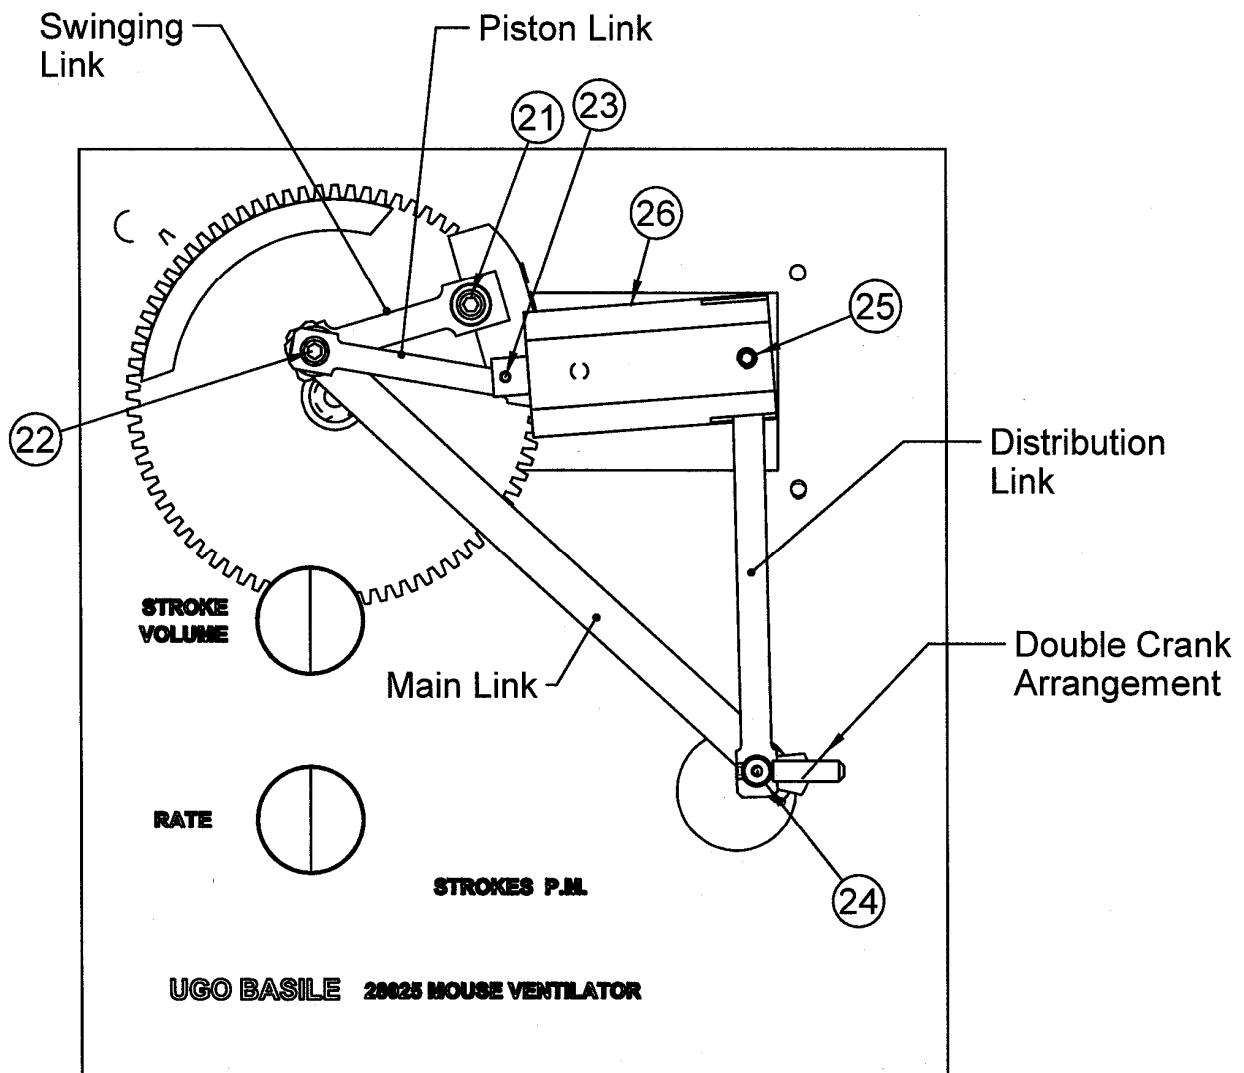

Figure 6 "Lubrication"
* See Figure 6 “Lubrication” for the “mechanically correct” names of the members of the kinematic linkage.
Every 200 hours of operation, lubricate the bearing of the swinging link (21), the triple joint (22), the piston gudgeon (23), the distribution link bearing (25), the double crank arrangement (24), see Figure 6 "Lubrication", by applying one drop of oil, ideally the one supplied with the standard package, see paragraph 6-ORDERING INFORMATION.